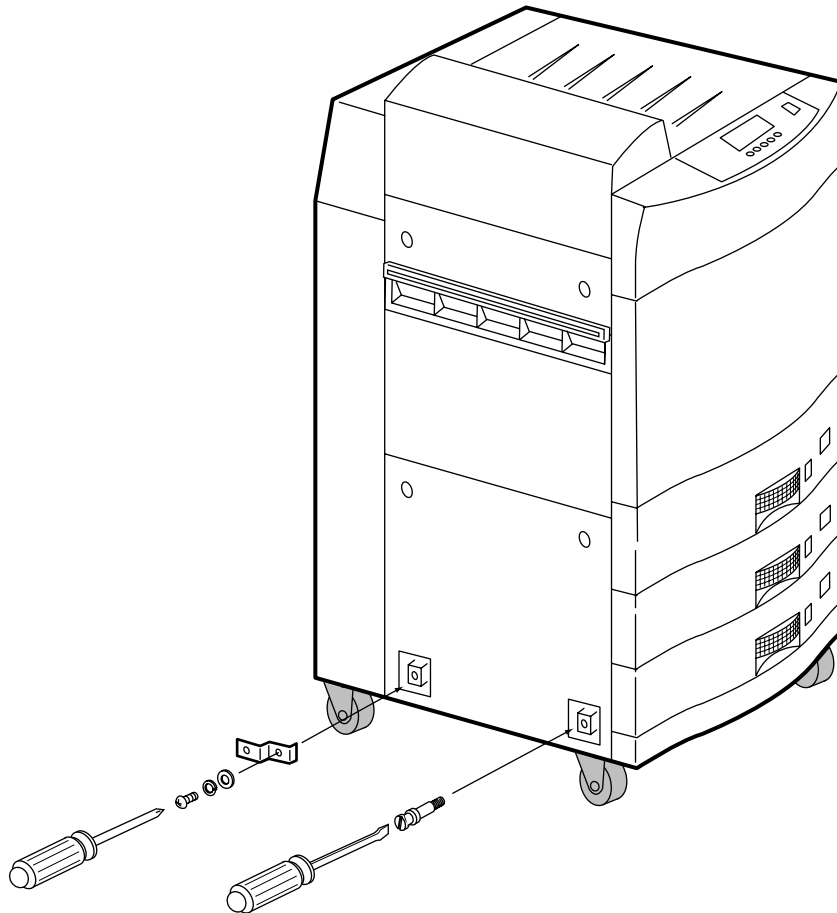

Figure 4-26 Attaching Bracket B and the Connect Pin
3. Attach bracket B to the bottom left side of the printer with the M6 x12 screw and fasten the connect pin, as shown in Figure 4-26.